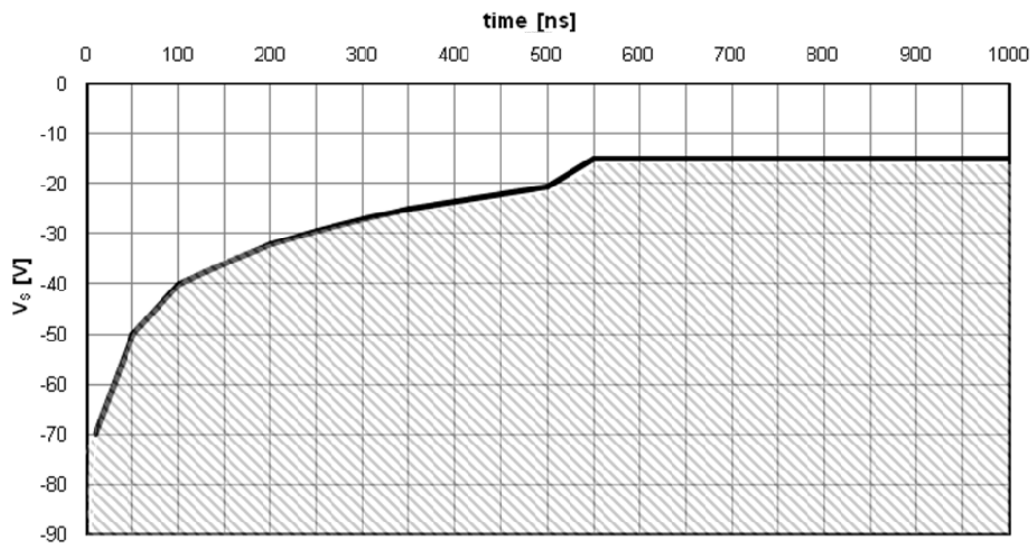

Figure 28: Negative V_s transient SOA for IRS233(0,2)(D)
International Rectifier's HVICs have been designed for the robustness required in many of today's demanding applications. An indication of the IRS233(0,2)(D)'s robustness can be seen in Figure 28, where there is represented the IRS233(0,2)(D) Safe Operating Area at $V_{BS}=15V$ based on repetitive negative V_s spikes. A negative V_s transient voltage falling in the grey area (outside SOA) may lead to IC permanent damage; viceversa unwanted functional anomalies or permanent damage to the IC do not appear if negative V_s transients fall inside SOA.